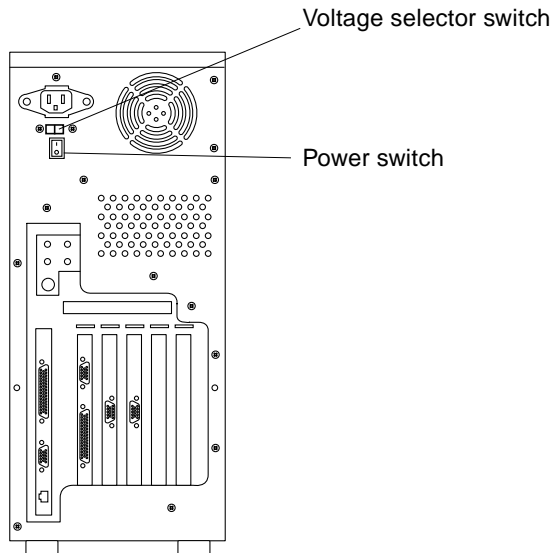

FIGURE 2-4 Ultra 10 System Power Switch
3. Set the system power switch to the off position (FIGURE 2-4).